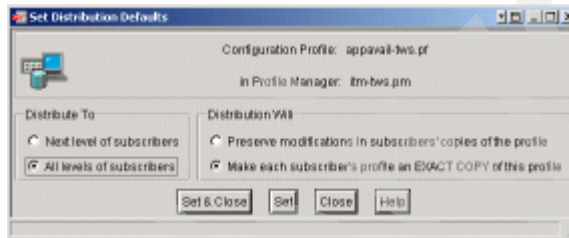

Figure 9-97 Setting distribution defaults for appavail-tws.pf profile
19. In the Distribute To group, select **All levels of subscribers**. In the Distribution Will group, select **Make each subscriber's profile an EXACT COPY of this profile**, as shown in Figure 9-97.